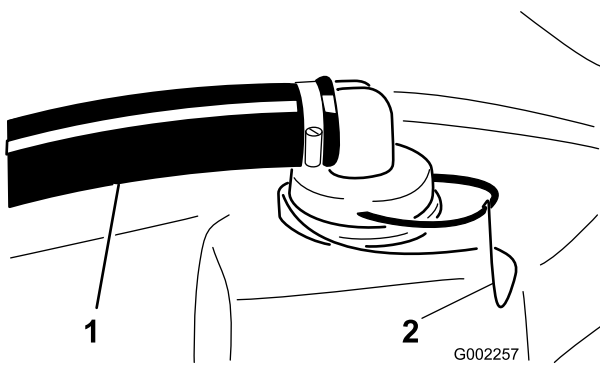

Figure 55
- Remove the retainer from the red fitting attached to the large hose on the top of the tank (Figure 55).
- Disconnect the hose from the tank (Figure 55).